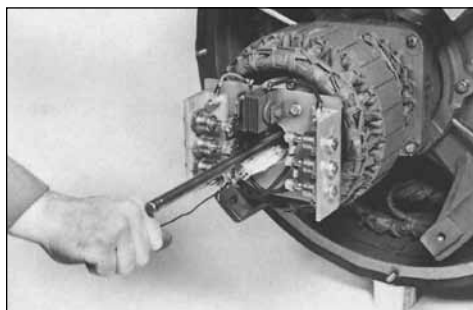

Figure 6-71
1. Attach a wire to the main rotor leads and feed the wire through the armature bore and out the lead hole in the aluminum standoff plate. On larger exciters, it will be helpful to install a guide pin in the end of the shaft to support the armature while fishing the rotor leads through. Align the key in the armature bore to the keyway in the shaft. Slide the armature on the shaft while feeding the main rotor leads through the lead hole in the aluminum standoff plate (Figure 6-71).